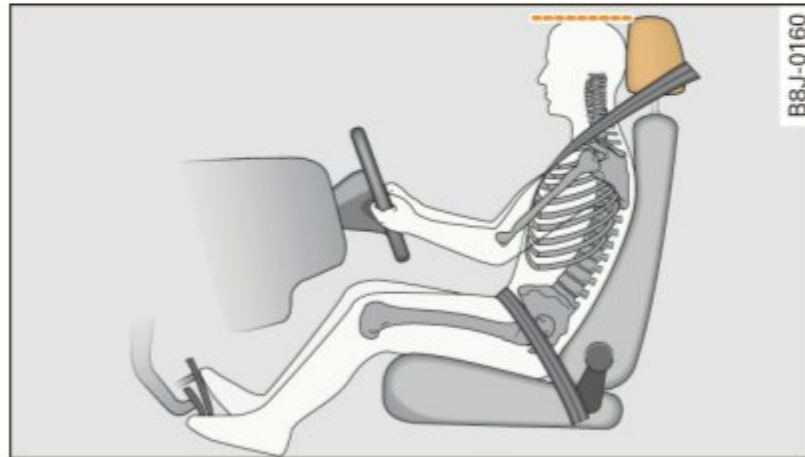

Fig. 160 Correctly adjusted head restraint viewed from the side
- Adjust the head restraint so that the upper edge of the restraint is level with the top of your head, but no lower than eye level and so it is as close to the back of your head as possible ⇒ *page 157, fig. 160.*